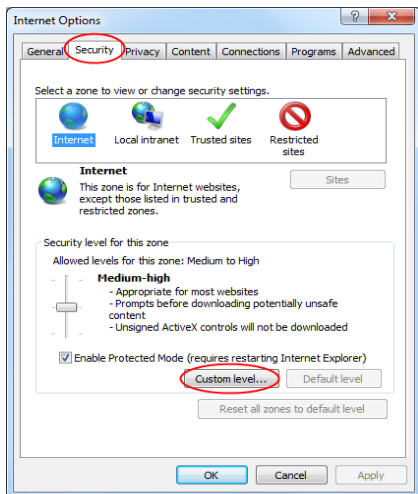

Fig 10-1
- ① Open IE browser. Click  → Internet Options.
- ② Select Security → Custom Level. Refer to Fig 10-1.